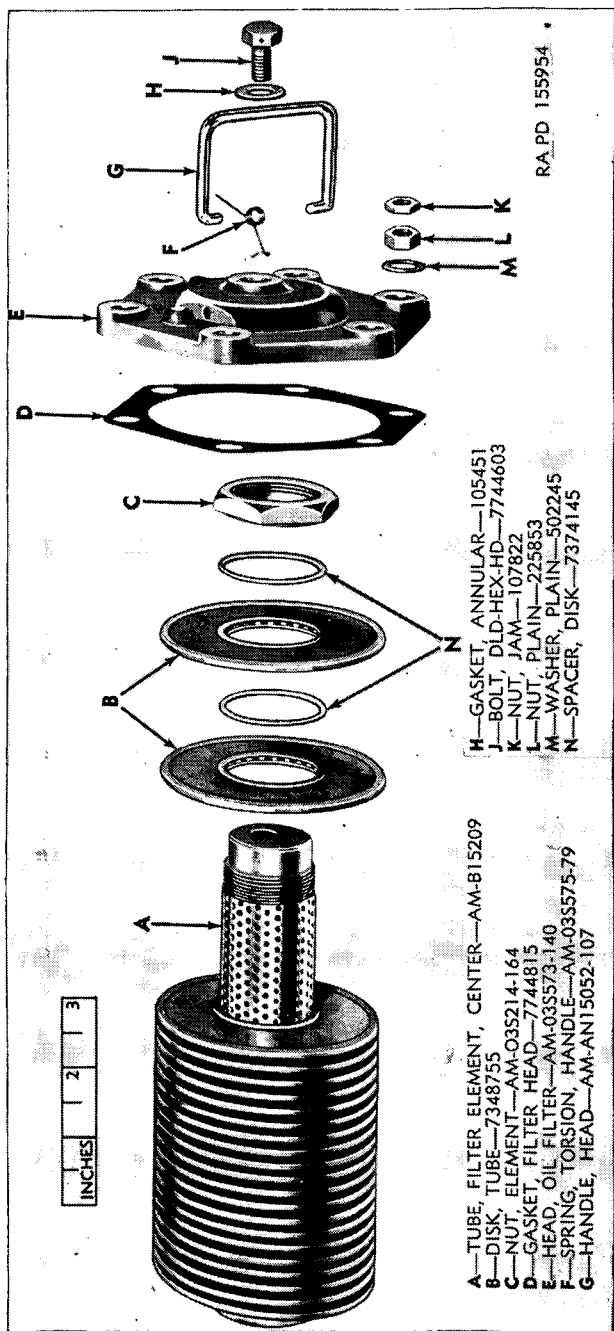

Figure 84. Oil filter—exploded view.
- (6) Install the heat control spring upper seat (Y), vacuum heat control diaphragm (Z), heat control spring lower seat (Y), and link check nut tab washer (AA), on the control link in the order named. Secure these components with the vacuum heat control link check plain nut (BB). Secure the nut with the tab washer.
- (7) Install the vacuum heat control spring (CC) in the vacuum heat control housing (DD). Attach this housing to the vacuum heat control lever housing (R) with eight drilled-fillister-head screws (HH) and plain washers (GG). Secure with safety wire. Make sure that the flat spot on the outer diameter of the vacuum control housing and the flat spot on the outer diameter of the vacuum control lever housing correspond. This will locate the vacuum heat control line 90° flared tube elbow (JJ) in the vacuum control housing in the proper position. Install the vacuum heat control link stop bolt (FF) and a new annular gasket (EE).
- (8) Assemble the vacuum heat control line assembly. Install elbow on heat control housing.
a. Oil filter (fig. 84).
- (1) *Disassembly.* Remove the oil filter head (E) from the center filter element tube (A). Remove the drilled-hex-head bolt (J) and its gasket. Discard the gasket. Remove element nut (C). Remove the filter element tube disks (B) and disk spacers (N).
- (2) *Cleaning.* Clean the disks in dry-cleaning solvent or volatile mineral spirits. Use compressed air to assist in cleaning deposits from disks. New disks are furnished to replace any disks which are defective.
- (3) *Assembly.* Assemble the disks and spacers in order on the tube and install the filter head. Secure with annular gasket (H), drilled hex-head bolt (J), and safety wire.